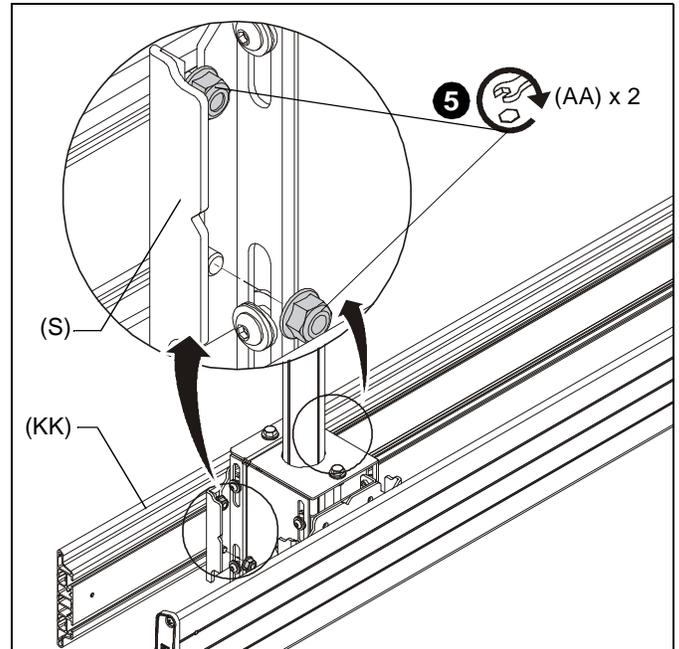

Figure 3
2. Partially fasten one 5/16" lock nut (AA) to each stud on upper T-slot studs.
3. Slide top T-slot studs (DD) with attached lock nuts (AA) down into top openings on add-on heads (S). (See Figure 3)
4. Slide studs on lower T-slot studs (DD) into lower slots on add-on heads (S) while bringing mounting rail against add-on heads.
**IMPORTANT ! :** Both mounting rails (KK) must be located at the same height. One mounting rail must NOT be higher than the other mounting rail.
5. Tighten array head to mounting rail by tightening lock nuts on upper T-slot studs and adding two 5/16" lock nuts (AA) to lower T-slot studs. (See Figure 3)